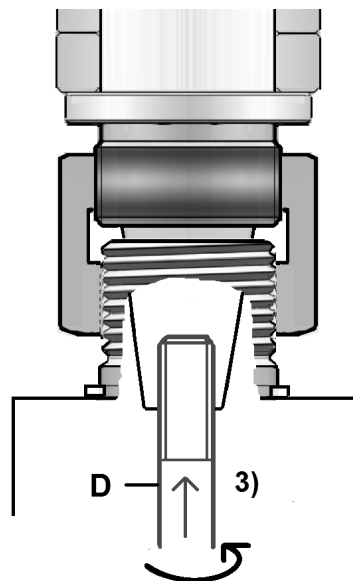

Fig 12
3) Place the draw bar (D, Fig 12&13) into the bottom of the spindle and tighten it with the supplied spanner.
The draw bar (D, Fig 12&13) must be removed first.